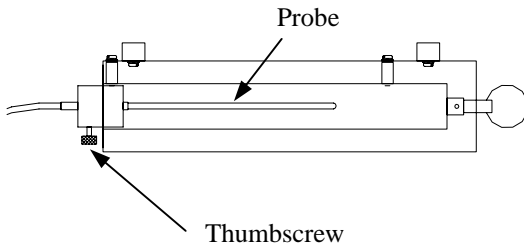

Figure 3
4. You will notice a thumbscrew at the rear of the inner shield network. Loosen the thumbscrew and remove the probe from the inner shield (See Figure 3).